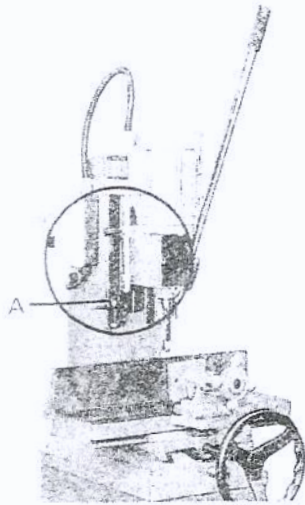

Fig. 3
The depth of chiseling can be controlled by adjusting setting bar and setting collar. Shown in Fig. 3. Use the haunch stop (A) to set 2 sections of chiseling.